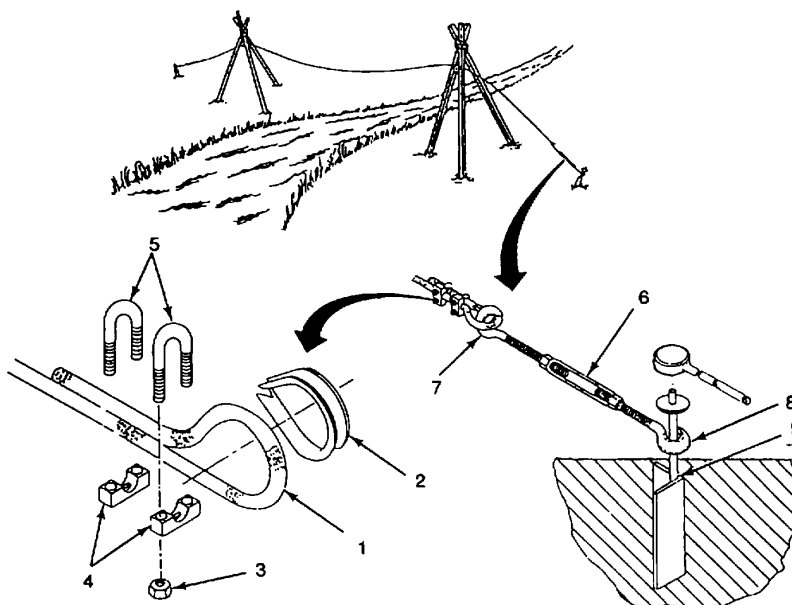

Figure 2-11. Wire Rope Loop
- (3) Hang a pulley block (3) from each tripod (1) and thread wire rope (4) through pulley (3) on near side.
- (4) Using manila rope, pull wire rope (4) across stream or obstruction.
- (5) Thread wire rope (4) through pulley block (3) on far side and remove manila rope.
- (6) Construct loop of wire rope (1, Figure 2-11) about 9 in. (23 cm) from one end of rope and insert thimble (2) into loop.
- (7) Locate two clamp assemblies. Remove two nuts (3) and one clamp (4) from each U-bolt (5).
- (8) Place one U-bolt (5) over doubled portion of wire rope (1) approximately 1/2 in. (1.3 cm) from thimble (2).
- (9) Install one damp (4) onto one U-bolt (5) using nuts (3). Tighten nuts (3) until doubled portion of wire rope (1) is held firmly together.
- (10) Place second U-bolt (5) over doubled portion of wire rope (1), approximately 4 in. (10 cm) down from first damp.
- (11) Install damp (4) using two nuts (3). Tighten nuts (3) until d ouble d portion of wire rope is held firmly together.
- (12) Unscrew turnbuckle (6) until it is almost fully extended. This will allow for adjustment to take up wire rope sag.